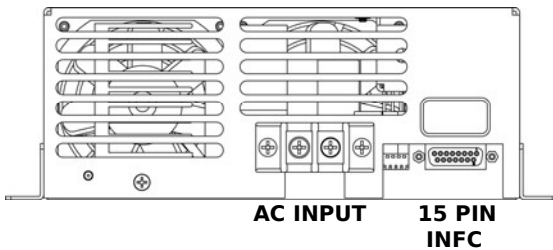

Figure 5
3. **INTERFACE CONNECTION** Connect user system to Interface 15 pin D-sub connector shown in Figure 5. (Although the user interface is typically designed by the user, Lumina Power can provide any assistance necessary to modify interface program and monitor levels) See Table 1 and Figure 4 for description of XLB-2500 Interface and the associated simplified interface schematic.